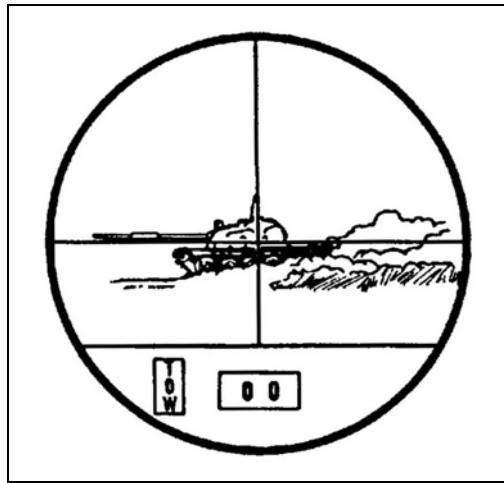

Figure 6-43. TOW sight picture.
c. Figure 6-43 shows the sight picture the gunner will see when engaging with the TOW. The word "TOW" displays on the status indicator at the bottom of the field of view (FOV).